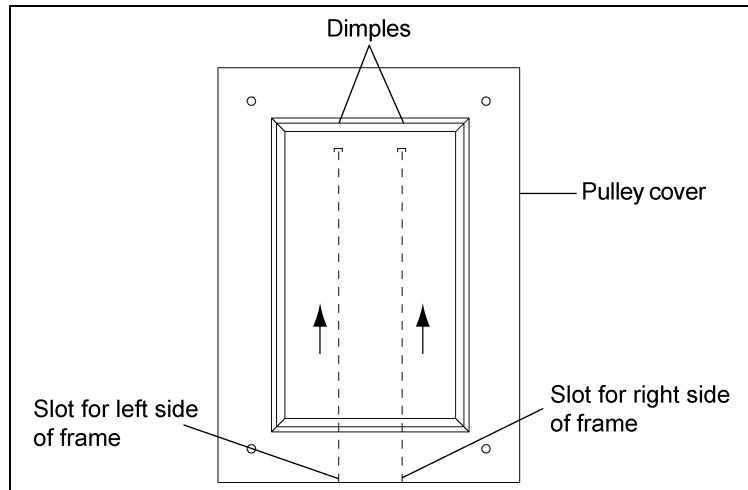

Figure 5A
Step 2: Using a saw, cut a slot from the bottom of the pulley cover lip to the dimple on the cover's face. When slotting the right pulley cover, use the right dimple for placement. When slotting the left pulley cover, use the left dimple for placement. (See Figure 5A for slot placement.)